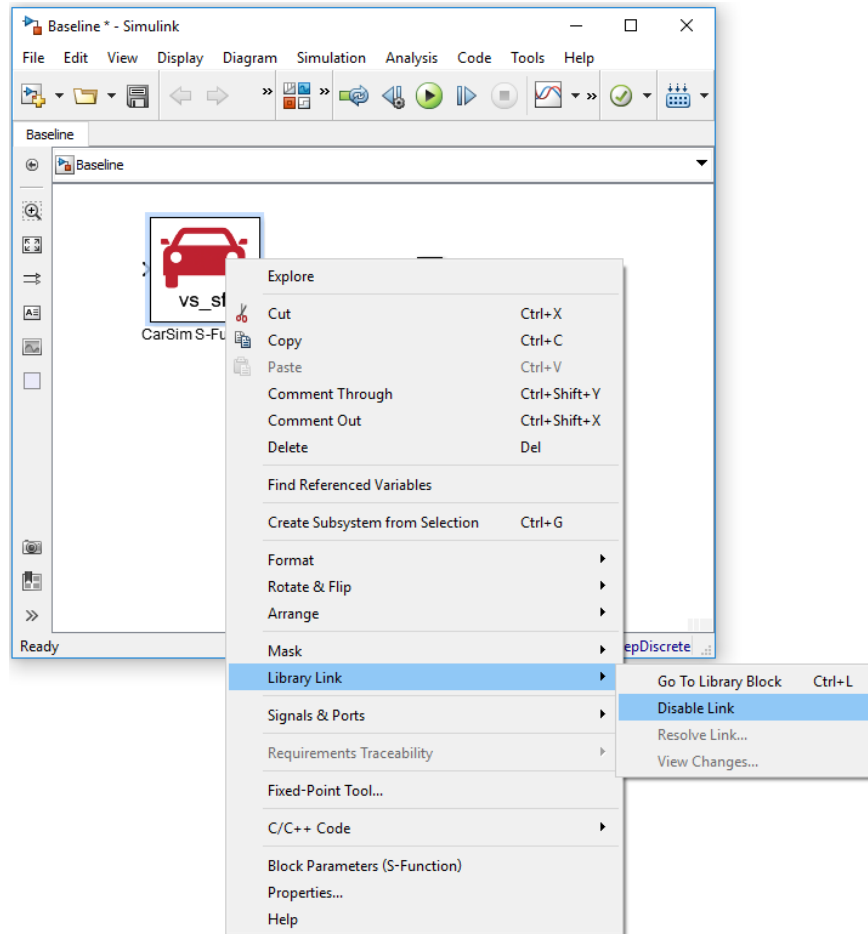

Figure 20. Disable Link.
2. Right click the newly replaced CarSim S-Function block and click **Library Link > Disable Link** to disable the link (Figure 20).